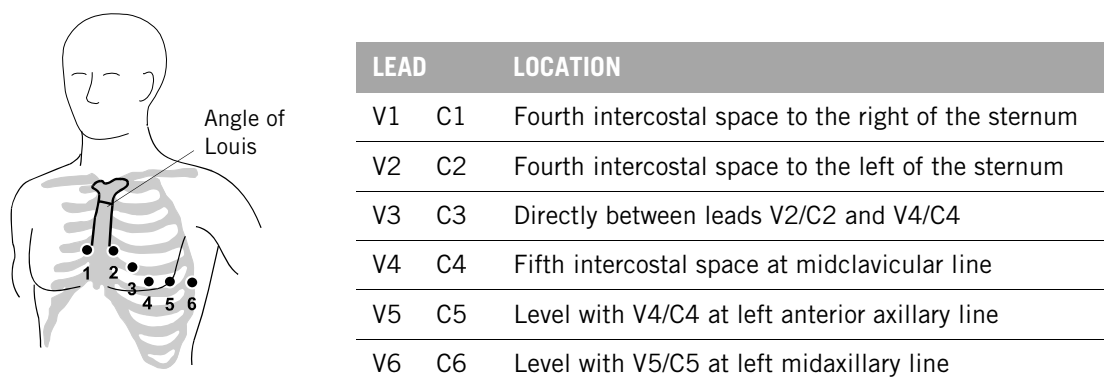

Figure 4-5 Precordial Lead Electrode Placement
2. Place the precordial lead electrodes on the chest as described in the 12-lead ECG procedure and shown in Figure 4-5 on page 4-15.
The six precordial (chest) leads are placed on specific locations as shown and summarized in Figure 4-5. Proper placement is important for accurate diagnosis and should be identified as follows: leads are V1 through V6 for AHA, or C1 through C6 for IEC. See ECG Leads Color Codes on page 4-10 for color codes.
5. Continue locating other positions from V1/C1 (see Figure 4-5).